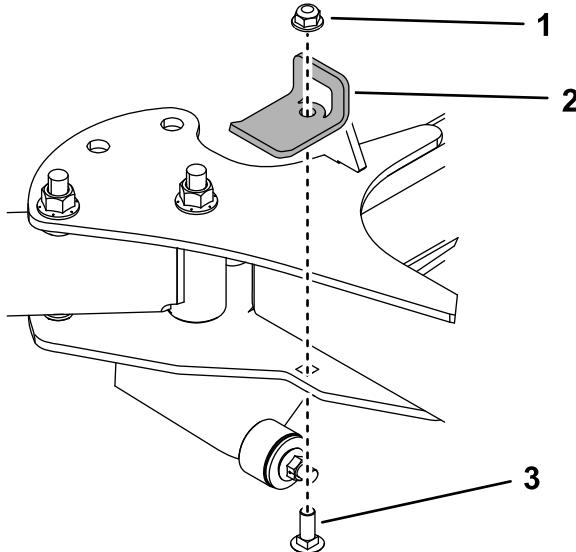

Figure 25
8. Remove the stop brackets (Figure 25).